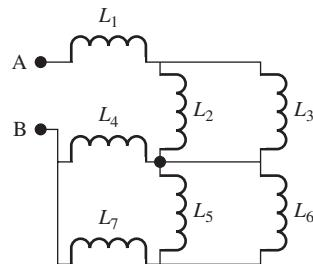

FIGURE P4.49 Inductor network.
- 4.49** (H) Find the expression for the equivalent inductance across the points A and B in Figure P4.49.